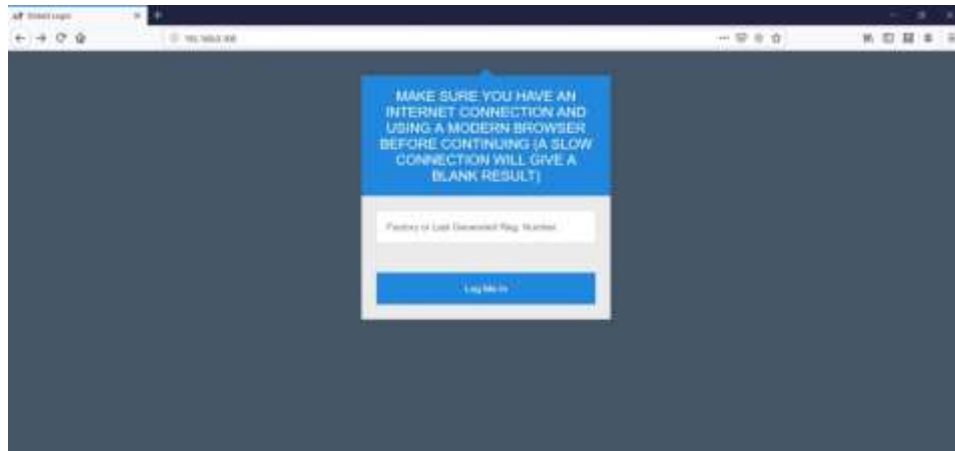

Fig 9.
- Next, enter the eDoboS IP from any browser, you should see the page in Fig.9.